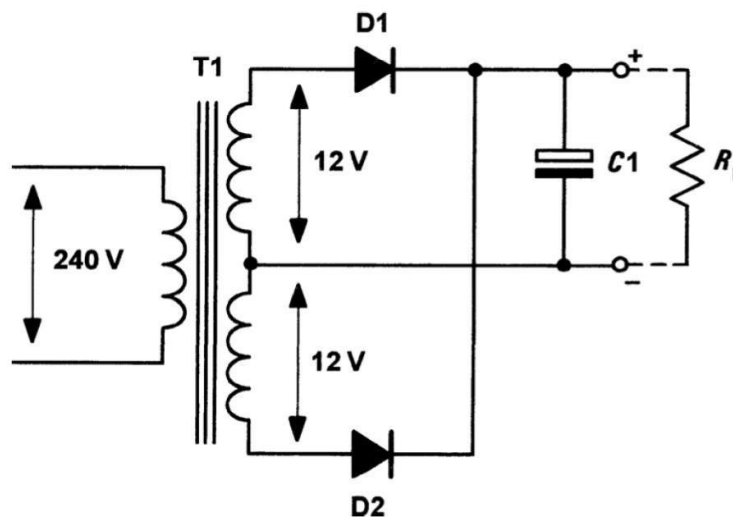

Figure 1.12 Bi-phase rectifier with reservoir capacitor
- Fig. 1.12 shows how a reservoir capacitor (C_1) can be added to ensure that the output voltage remains at, or near, the peak voltage even when the diodes are not conducting.